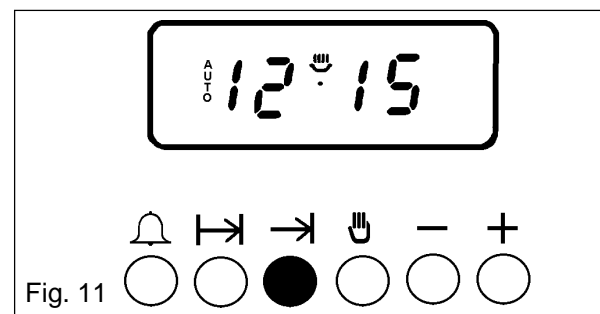

Fig. 11
- To check the stop time during the cooking period, simply press the stop time button (→) and the stop time will be displayed, as Fig. 11.